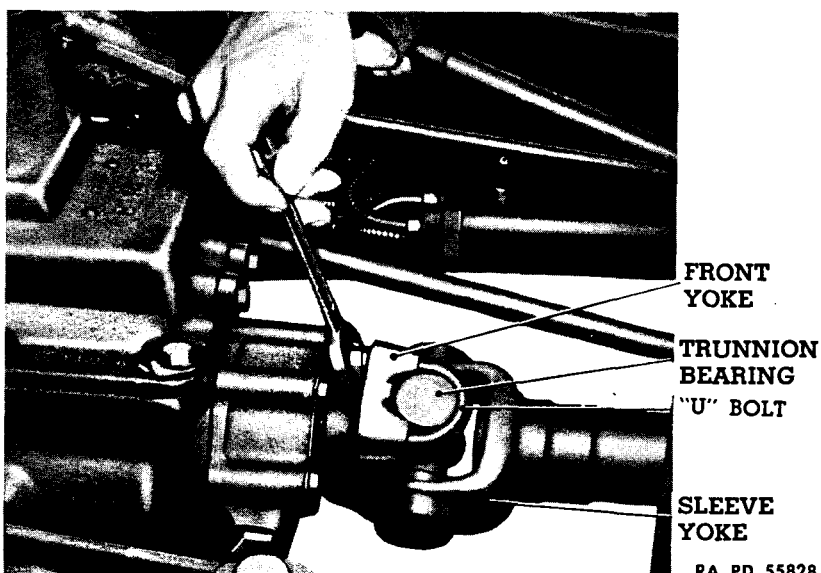

Figure 54—Disconnecting Universal Joint
(1) REMOVE U-BOLT RETAINER NUTS (fig. 54).